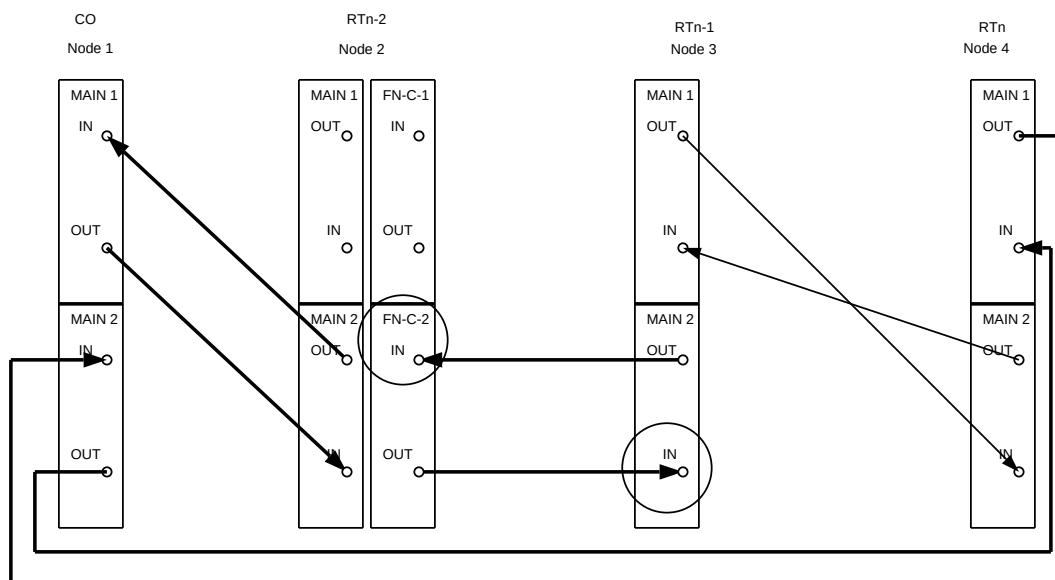

Figure 21. DDM-2000 OC-3 Drop or Add/Drop Network to Ring Upgrade
43. At Node 2 (RTn-2) and Node 3 (RTn-1), use the **"switch-line:main:pri>manual"** command to switch service to the protection line (main-2 OLIU active). (See Figure 21.)
44. At Node 3 (RTn-1), disconnect the optical fibers from **MAIN 1 OLIUs**. At Node 2 (RTn-2), disconnect the optical fibers from **FUNCTION UNITS C 1 OLIUs**. (See Figure 21.)
45. Connect optical fiber from Node 3 (RTn-1) **MAIN 1 OUT** to Node 4 (RTn) **MAIN 2(P) IN**. Connect optical fiber from Node 3 (RTn-1) **MAIN 1 IN** to Node 4 (RTn) **MAIN 2(P) OUT**. (See Figure 21.)